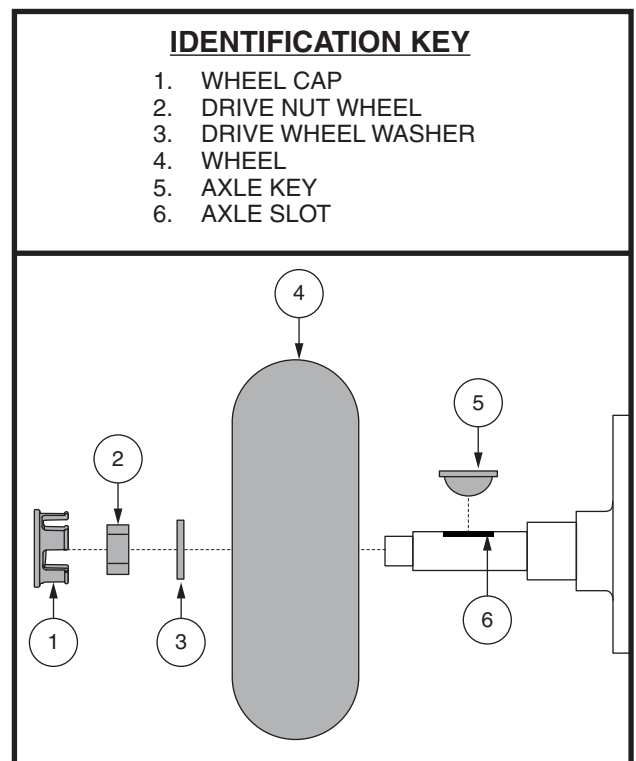

Figure 15. Wheel Removal
3. Remove the wheel cap, drive wheel nut and washer from the axle. **See figure 15.**